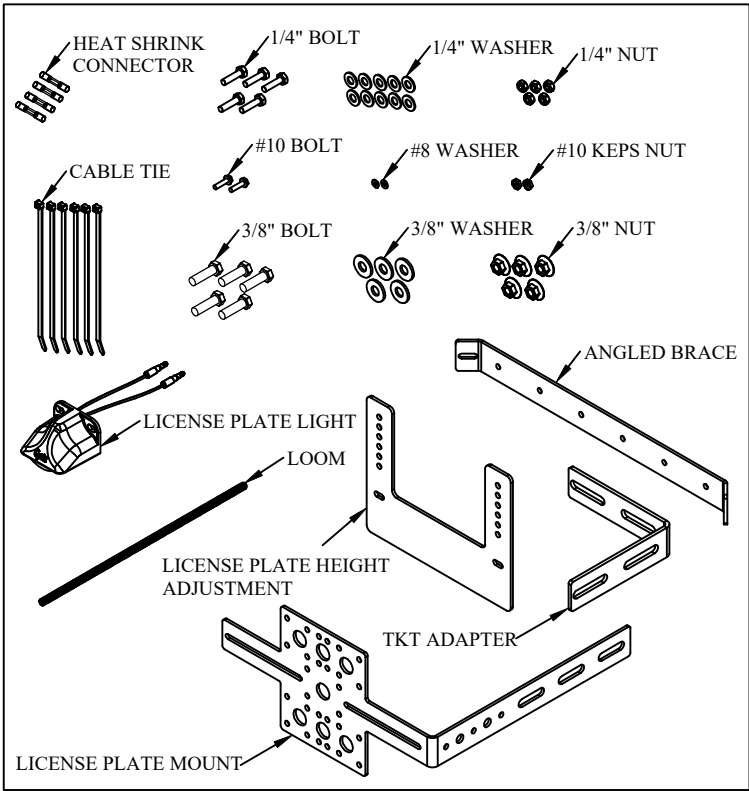

Figure 1: License plate kit.
1. **Verify** all parts are contained within the kit (Figure 1 and Table 1).